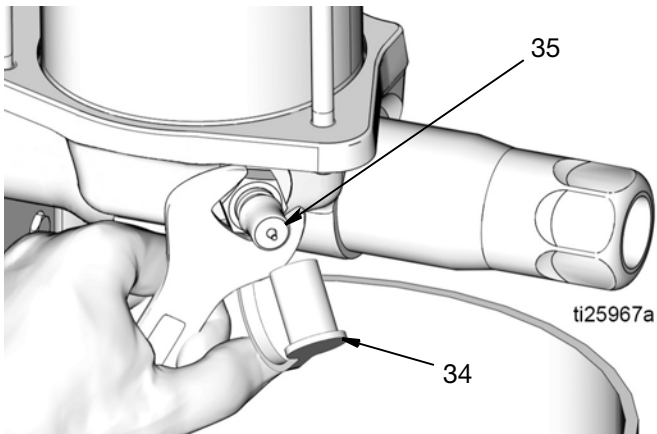

FIG. 12
7. Remove fill cap (34). Then use a wrench to loosen and slowly remove the fill stud (35). (FIG. 12).